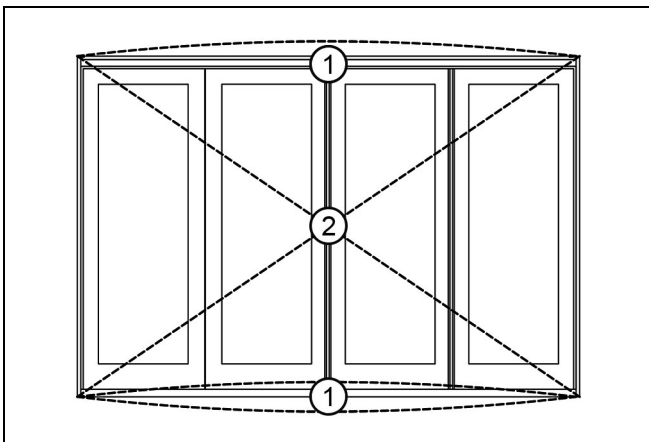

Figure 29 Frame tolerance
1. Frame Tolerance: the sill must be within +/- 1/16" (2) flat. The head jamb must be flat or within +1/16" of flat (not bowed down). When installed, the frame must be within +/- 3/16" (5) of square. See Figure 29.